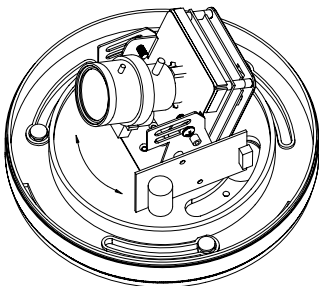

Figure 5
STEP 4: The horizontal angle can be adjusted by turning the Camera Case and bracket in Figure 5 and by turning the Camera Platform horizontally.